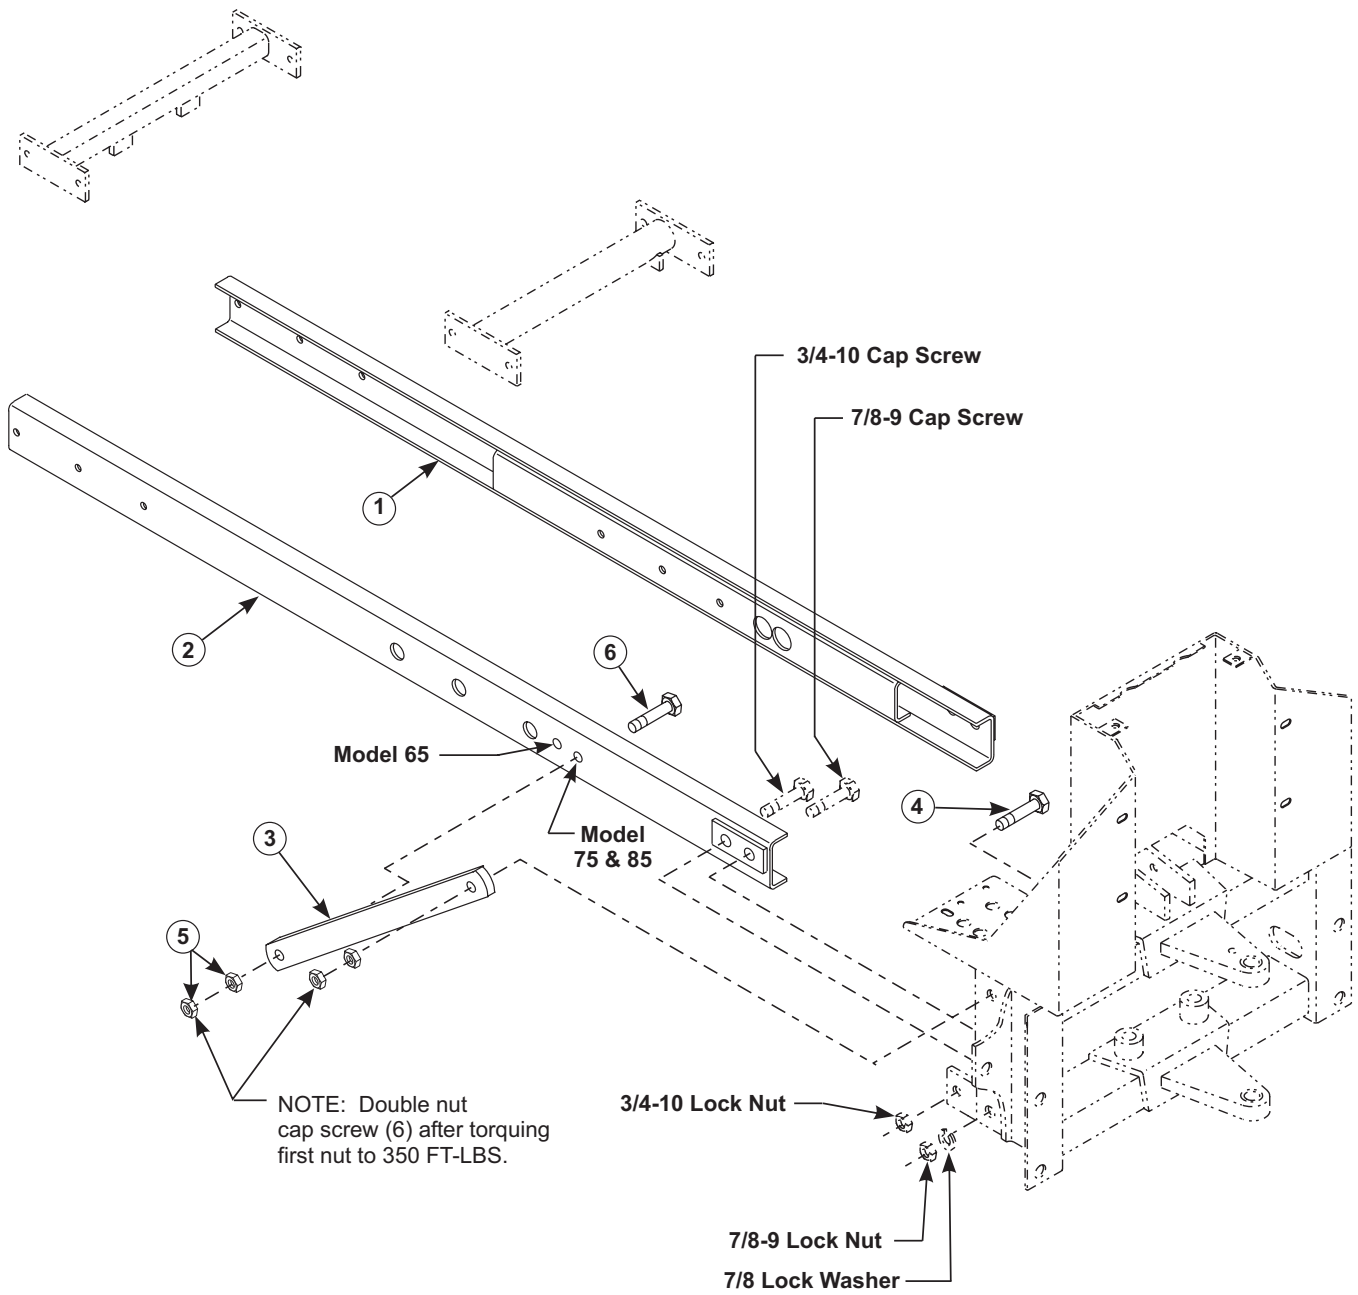

Figure 1
1. Install subframe channels (1 & 2) as shown in Figure 1.
2. Install mounting brackets (3) in rear set of holes on channels Using 3/4 x 2 cap screws (6) and 3/4 lock nuts (5) in channels and 3/4 x 1-3/4 cap screws (4) and 3/4 lock nuts (5) on backhoe mainframe.